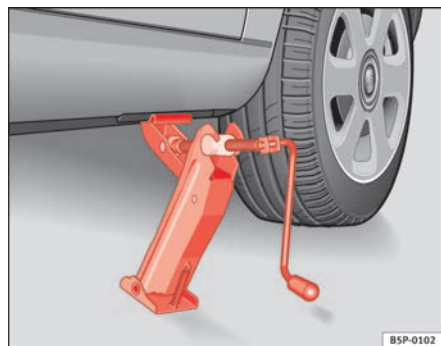

Fig. 157 Fitting the jack
- Align the jack so that the arm of the jack fits around the rib under the door sill and the movable base plate of the jack is flat on the ground ⇒ fig. 157.